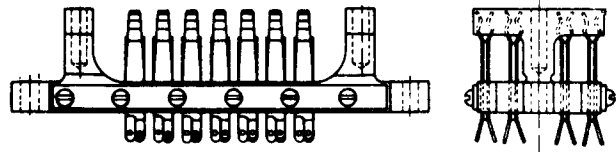

Fig. 6—311 Jack
2.06 **311:** This multicontact jack (Fig. 6) is used with the 300A plug. This jack is designed for switching or patching in emergency switching and patching plug and jack equipment of dial offices. The contacts are insulated from each other and arranged in pairs. The 311 jack is provided with guide holes